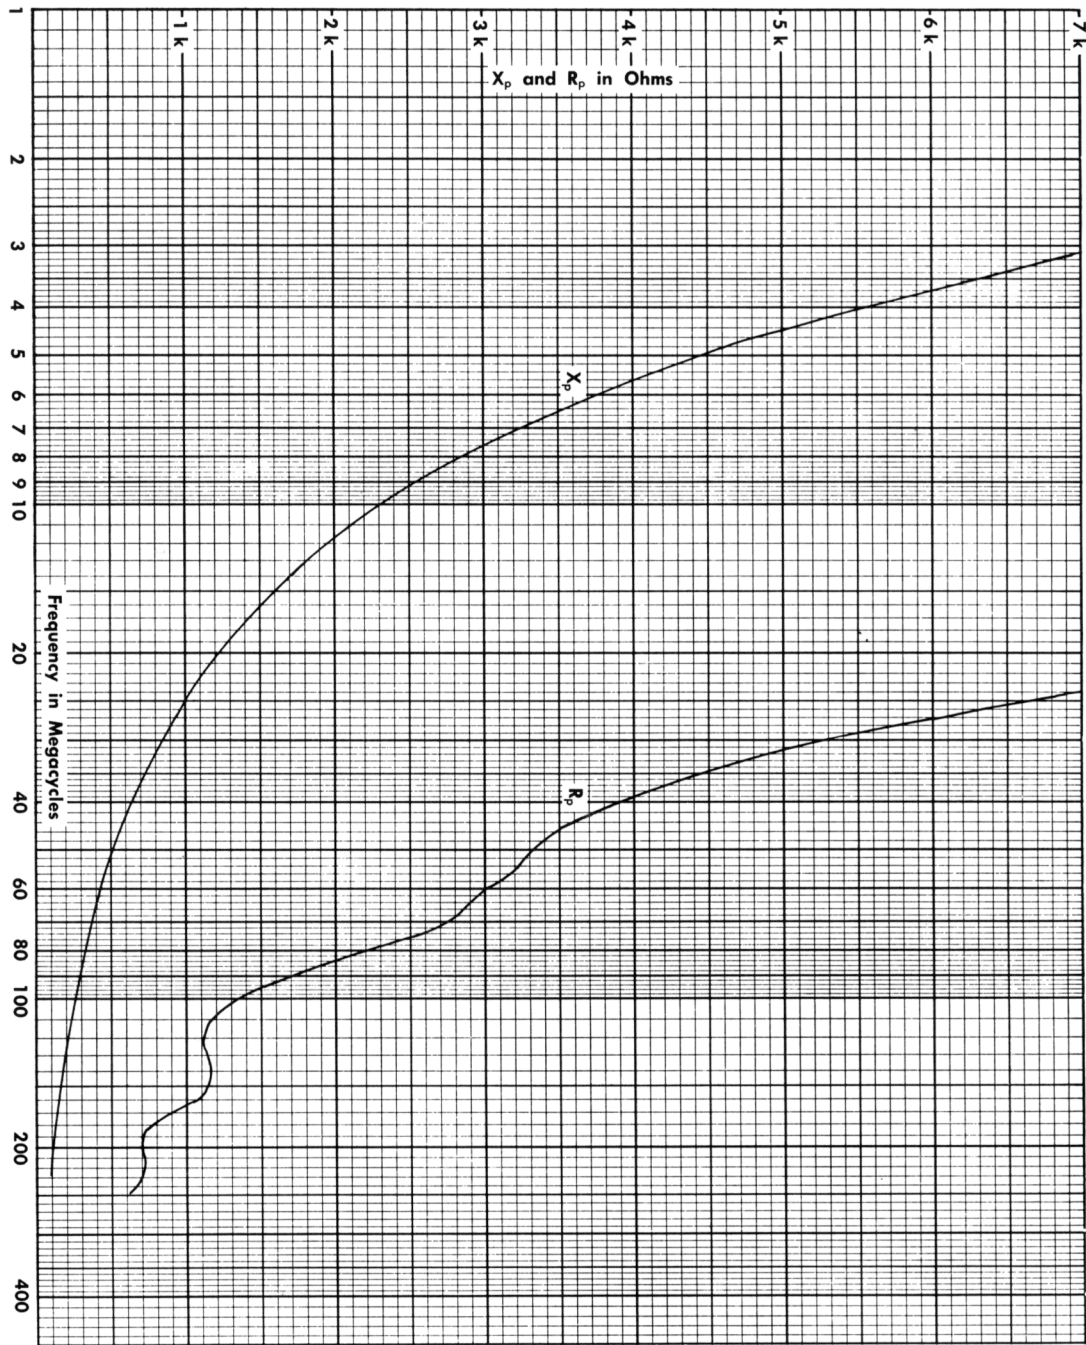

Fig. 2-3. P6008 Input Resistance and Reactance Versus Frequency.
10 megohms paralleled by about 7 pf. Fig. 2-3 shows input impedance vs frequency up to 250 megacycles.
1. Loading—Fig. 2-3 is a graph of the probe input resistance and reactance versus frequency measured with the probe connected to the plug-in and an R-X meter connected to the probe input. X_p represents capacitive reactance, and R_p represents resistance. The input impedance of the probe may affect the operation of the circuit under test.